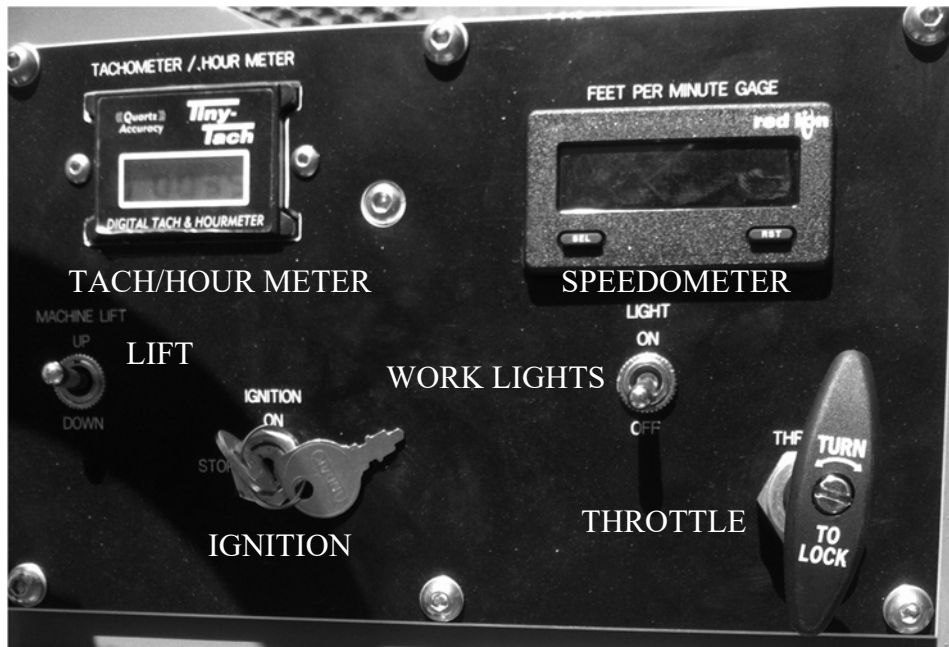

FIGURE 3.1.1
4. Turn the key switch to start until the motor starts (SEE FIGURE 3.1.1).